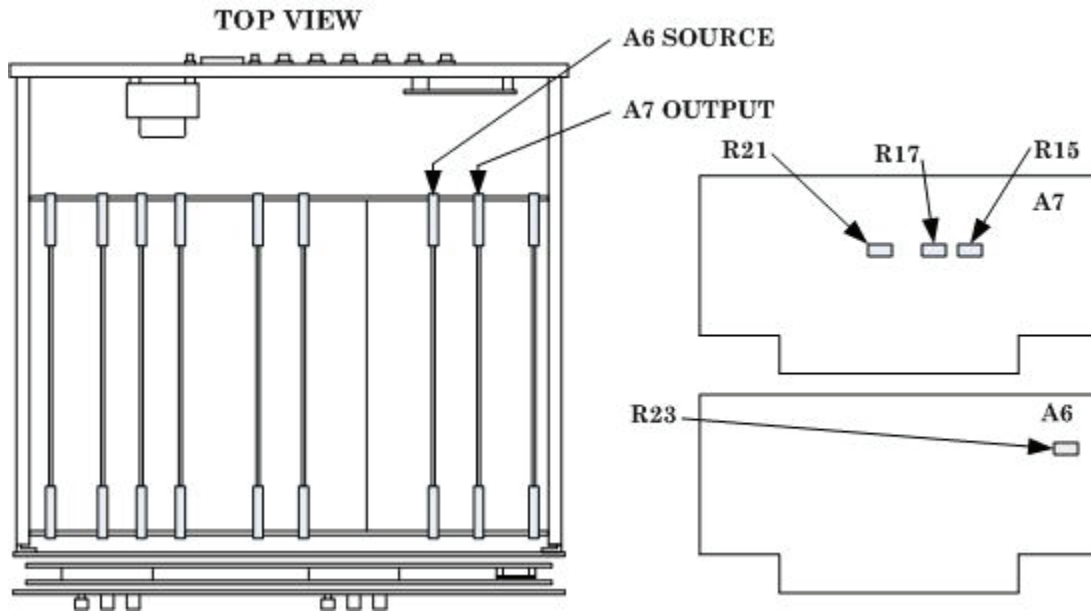

Figure 6. Output level - adjustment locations.
- (1) Press keys and enter values using **DATA ENTRY** keys as listed in (a) through (f) below:
- (2) Adjust A6R23 (fig. 6) for an ac measurement standard indication of 3.000 V.
- (3) Enter **511 mV** using **DATA ENTRY** keys and record ac measurement standard indication.
- (4) Enter **512 mV** using **DATA ENTRY** keys and adjust A7R21 (fig. 6) for a ac measurement standard indication of 1 mV greater than that recorded in (3) above (R).
- (5) Enter **1.023 V** using **DATA ENTRY** keys and record ac measurement standard indication.
- (6) Enter **1.024 V** using **DATA ENTRY** keys and adjust A7R17 (fig. 6) for an ac measurement standard indication of 1 mV greater than that recorded in (5) above (R).
(7) Enter **2.047 V** using **DATA ENTRY** keys and record ac measurement standard indication.
(8) Enter **2.048 V** using **DATA ENTRY** keys and adjust A7R15 (fig. 6) for an ac measurement standard indication of 1 mV greater than that recorded in (7) above (R).
(9) Enter **3.000 V** using **DATA ENTRY** keys and adjust A6R23 (fig. 6) for an ac measurement standard indication of 3.000 V (R).